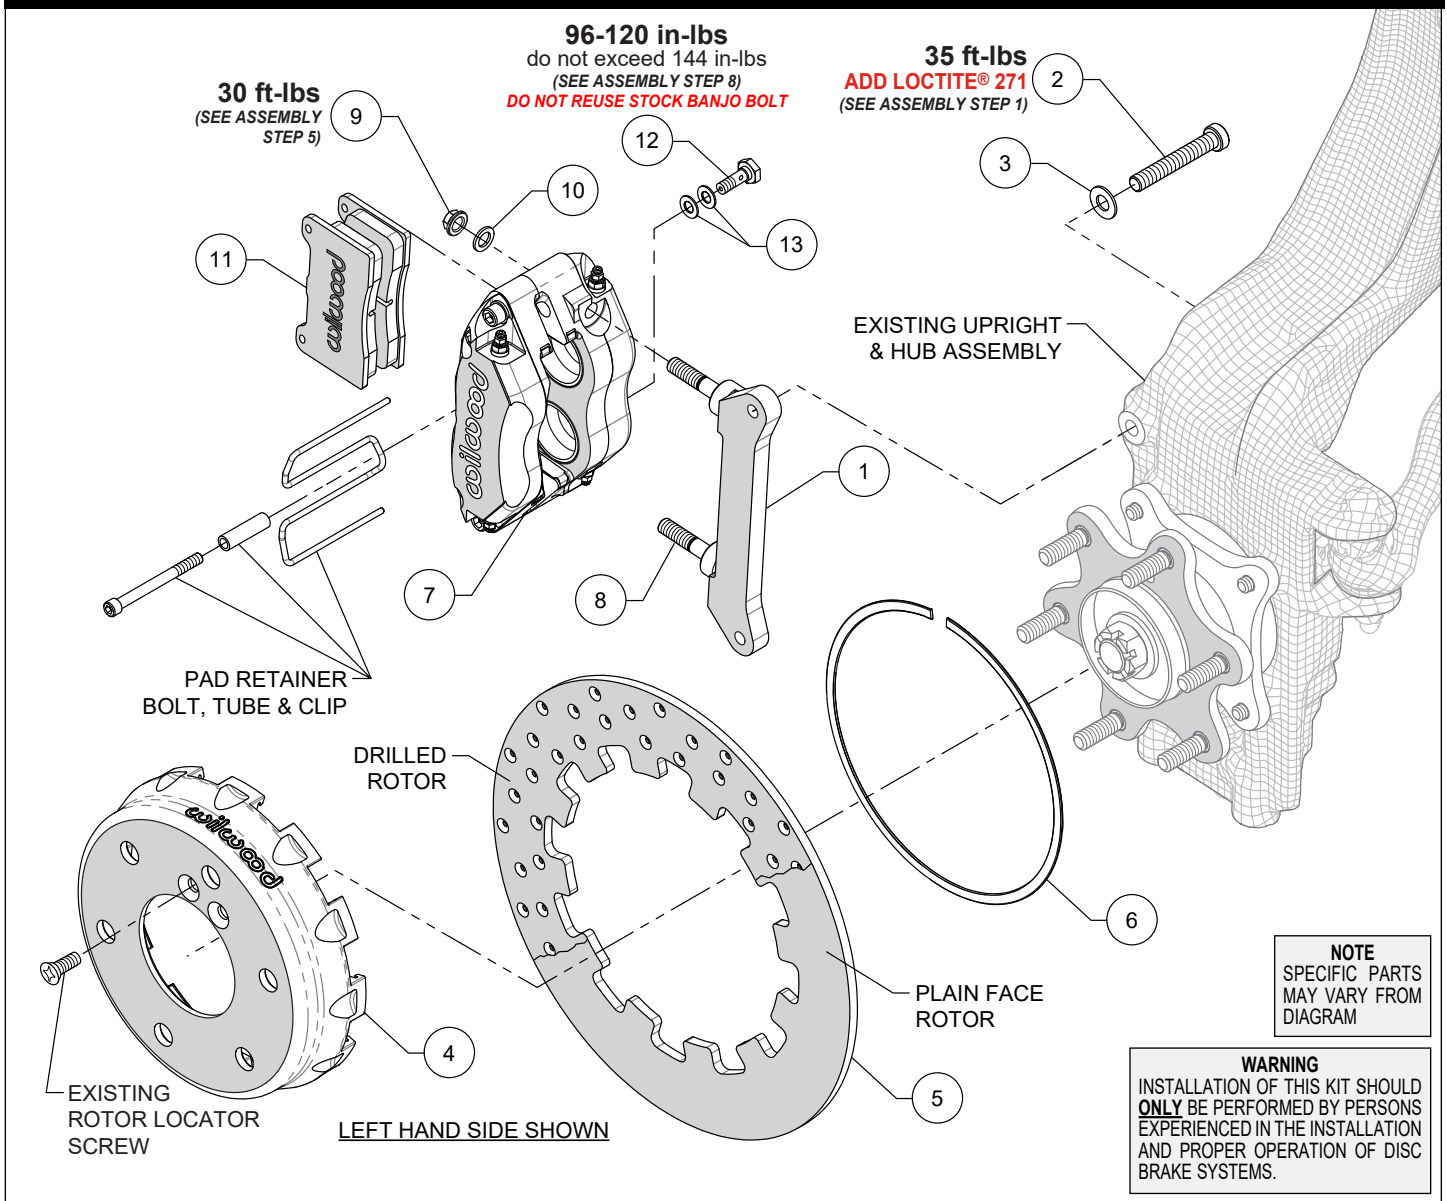

Figure 1. Typical Installation Configuration
NOTE: Numbers in parenthesis refer to the parts list and Figure 1 on the preceding pages.
STEP 1 The caliper mount bracket (1) should initially be installed with clean, dry threads on the mounting bolts. Orient the bracket, as shown in Figure 1 and Photo 1, and install using bolts (2) and washers (3). Temporarily tighten the mounting bolts. **NOTE:** The bracket must fit squarely against the mount bosses on the upright. Inspect for interference from casting irregularities, machining ridges, burrs, etc. Remove the bracket mounting bolts (2) one at a time, apply red Loctite® 271 to the threads, and torque to value shown in Figure 1.
STEP 2 Position the rotor (5) onto the hat (4), making sure the rotor lugs fit into the recesses of the hat, as shown in Photo 2.
STEP 3 Secure rotor to the hat using the snap ring (6) by installing the ring into the groove in the hat, as shown in Photos 3 and 4. **Carefully inspect snap ring to ensure complete engagement in the groove.**
STEP 4 Slide the hat/rotor (4/5) assembly onto the axle hub. **NOTE:** The hat must fit flush against the axle hub flange or excessive rotor run out may result. Install the existing rotor locator screw to keep the hat/rotor assembly in place while continuing with the installation, Figure 1 and Photo 5.
STEP 5 Mount the caliper (7) onto the caliper bracket studs (8) using lock nuts (9) and washers (10), Figure 1. Torque lock nuts (9) to value shown in Figure 1.
STEP 6 Remove the pad retainer bolt, tube, and clip from the caliper (7), Figure 1. Insert the brake pads (11) into the caliper with the friction material facing the rotor, as shown in Photo 6. Secure the pads in place using the pad clip retainer as well as the pad retainer tube and bolt, Photo 7. The bolt should be snug without play in the tube. Be cautious not to over tighten.
STEP 8 Attach brake line to caliper. Connect OEM brake line to caliper using banjo bolt (12) and crush washers (13), Photo 8. Do not use lubricant or thread sealant on banjo bolt (12). Torque to minimum value shown in Figure 1. Check for leakage, increasing torque only to stop leakage without exceeding maximum